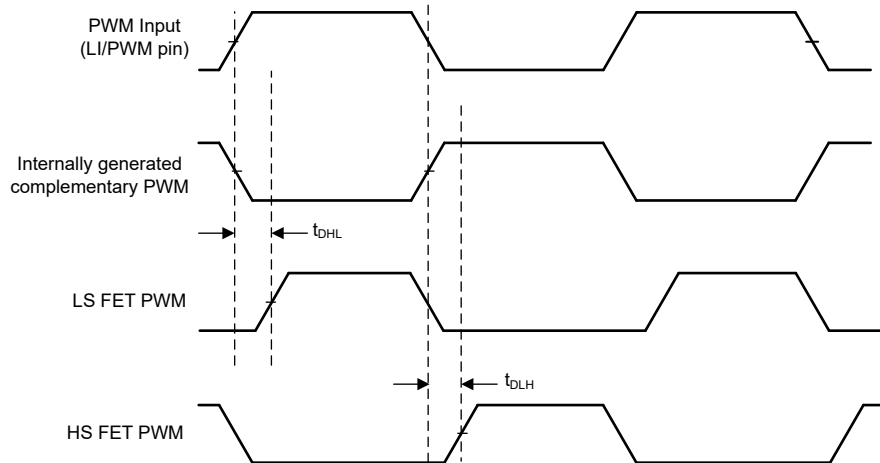

Figure 8-5. PWM Mode Operation
DRV7163A supports single PWM mode for IO limited controllers. Float the RDLF pin to enable the single PWM mode. Keep the ENIN/HI pin high to enable the driver. Resistors (0Ω to $100k\Omega$) on DHL and DLH set the dead time for high to low transition and low to high transition at switch node as per Equation 4 and Equation 5. Figure 8-5 explains how the PWM inputs from the high side (HS) and low side (LS) GaN FET derive from the single PWM input. DRV7163A generates a complimentary PWM, which is 180° phase shifted signal of the PWM input. The device generates the LS FET PWM input by delaying the rising edge of PWM input by t_{DHL} time to provide dead time and HS FET PWM input by delaying the rising edge of complimentary PWM input by t_{DLH} time to